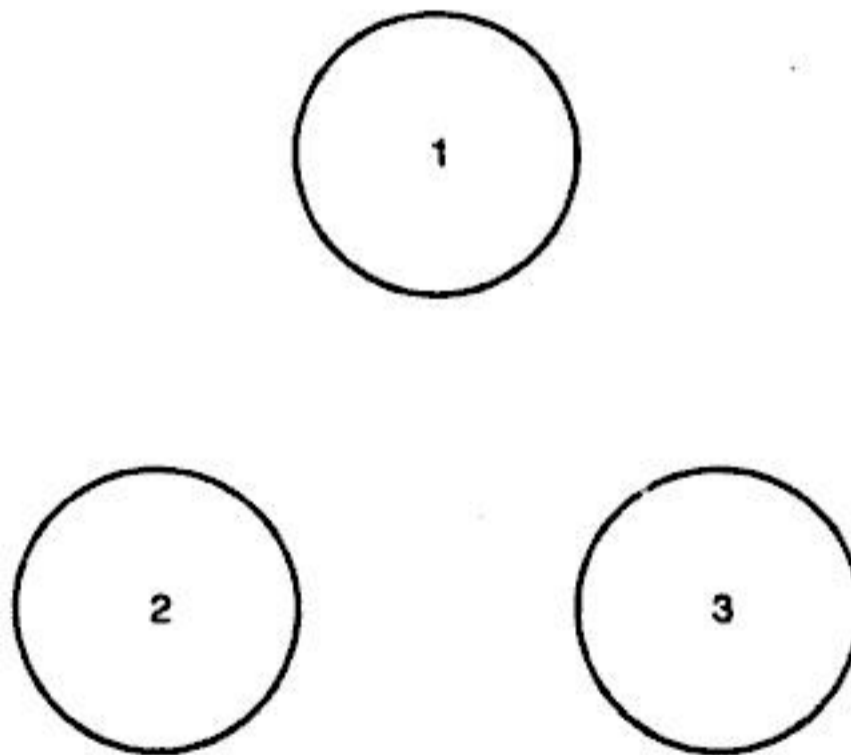

Fig. 1.6. Zeroth law of thermodynamics.
**Example.** Refer Fig. 1.6. System '1' may consist of a mass of gas enclosed in a rigid vessel fitted with a pressure gauge. If there is no change of pressure when this system is brought into contact with system '2' a block of iron, then the two systems are equal in temperature (assuming that the systems 1 and 2 do not react each other chemically or electrically). Experiment reveals that if system '1' is brought into contact with a third system '3' again with no change of properties then systems '2' and '3' will show no change in their properties when brought into contact provided they do not react with each other chemically or electrically. Therefore, '2' and '3' must be in equilibrium.